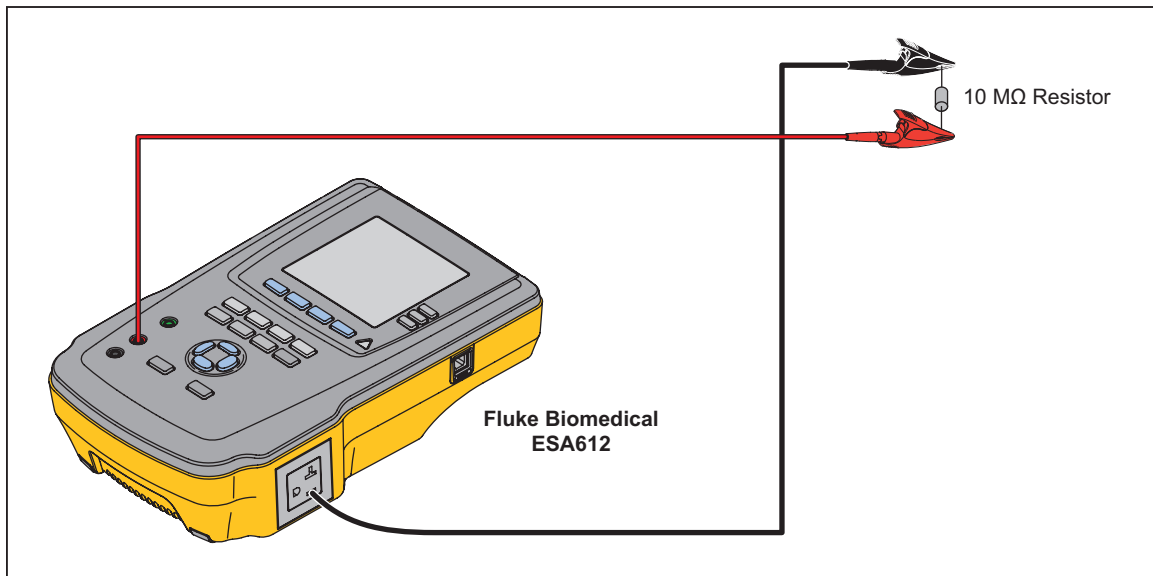

Figure 3-11. Mains to NE Verification Connections
56. Connect the red jack to one side of a 10-M Ω resistor. Connect EO Hot to the other side of the resistor as shown in Figure 3-11.